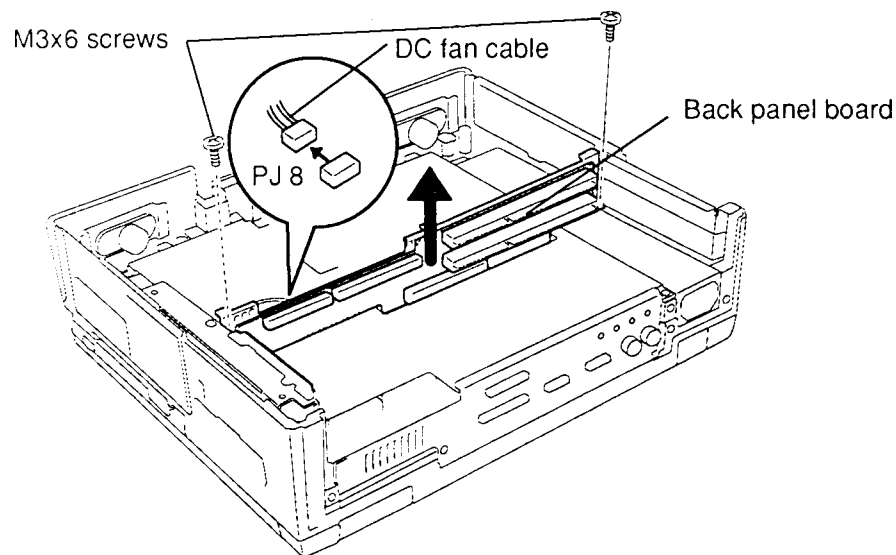

Figure 4-24 Removing the Back Panel Board
To remove the back panel board, follow the steps below and refer to Figures 4-24 and 4-25.
3. Disconnect the **DC fan cable** from **PJ8** on the **back panel board** and remove the **two M3x6 screws** securing the back panel frame (Figure 4-24).
4. Carefully lift out the **back panel board**, disconnecting it from the system board (Figure 4-24).
To install the back panel board, follow the steps below and refer to Figures 4-24 and 4-25.
2. Connect the **back panel board** to the system board at PJ490 and PJ491, then secure the board with **two M3x6 screws** (Figure 4-24).
3. Connect the **DC fan cable** to **PJ8** on the **back panel board** (Figure 4-24).